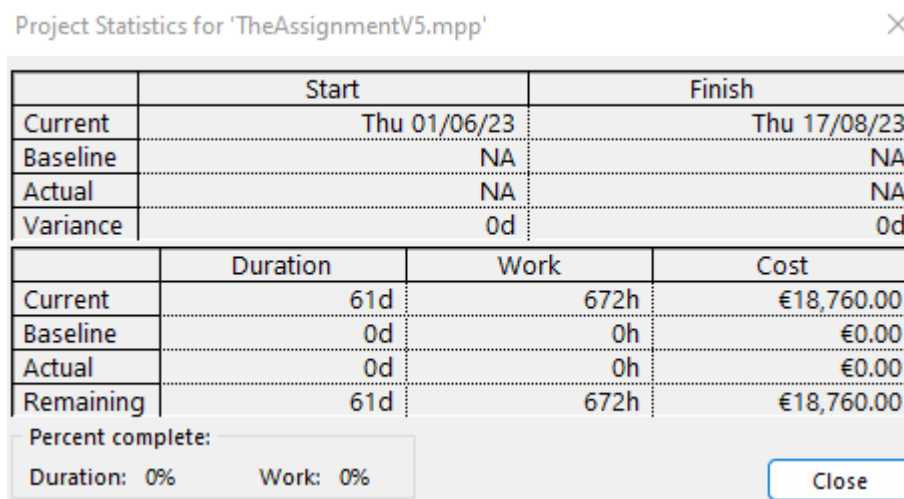

Figure 13: The Project Overview after applying optimization.
The final project overview is shown below in Figure 13. It is important to note that the cost did go down a bit due to the Sub-Contractors being assigned to the tasks in the **(3) Interior & Exterior** phase. All other adjustments were made by adjusting mainly lead time as well as allocating resources that are priced the same or lower than Contractors.